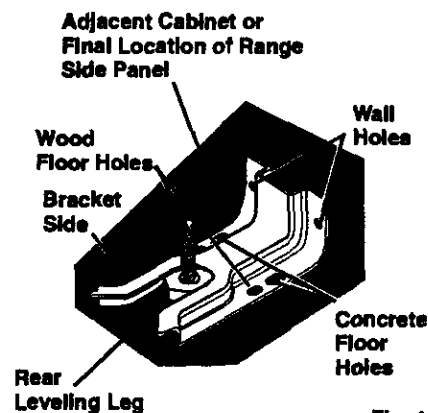

Fig. 1
**B.** Use the bracket as a template and mark 2 hole positions on the wall and 2 hole positions on the floor. Use either the wood or concrete floor set of positions, depending on your floor type. See Fig. 1.
- B. Check if the **ANTI-TIP** bracket is installed and engaged properly. Remove the kick panel or storage drawer and inspect the **REAR LEVELING LEG**. Make sure it fits securely into the slot. See Fig. 1.